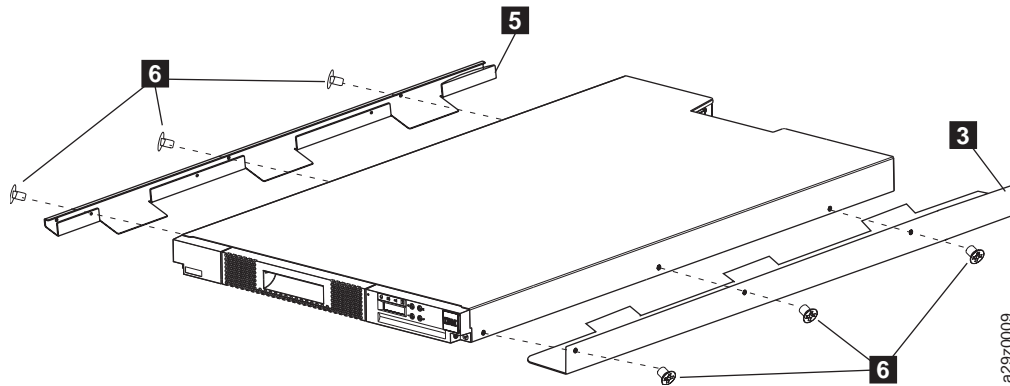

Figure 135. Attaching the side rails to the library chassis
1. Attach the left **5** and right **3** rails to the chassis with 3 flat-head screws **6** on each side (Figure 135 on page 145).